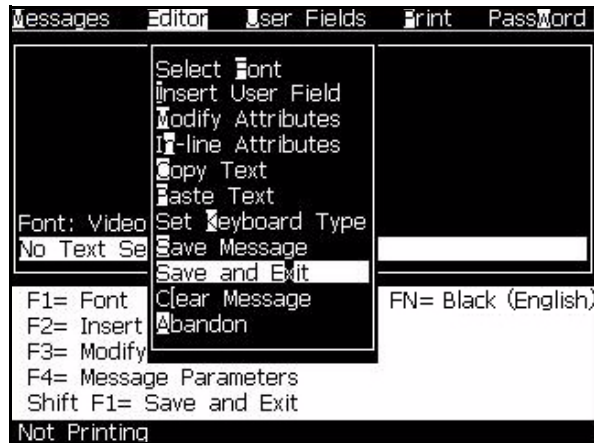

Figure 5-14: Save and Exit Option
- Select *Save and Exit* from the *Editor* menu (see Figure 5-14).